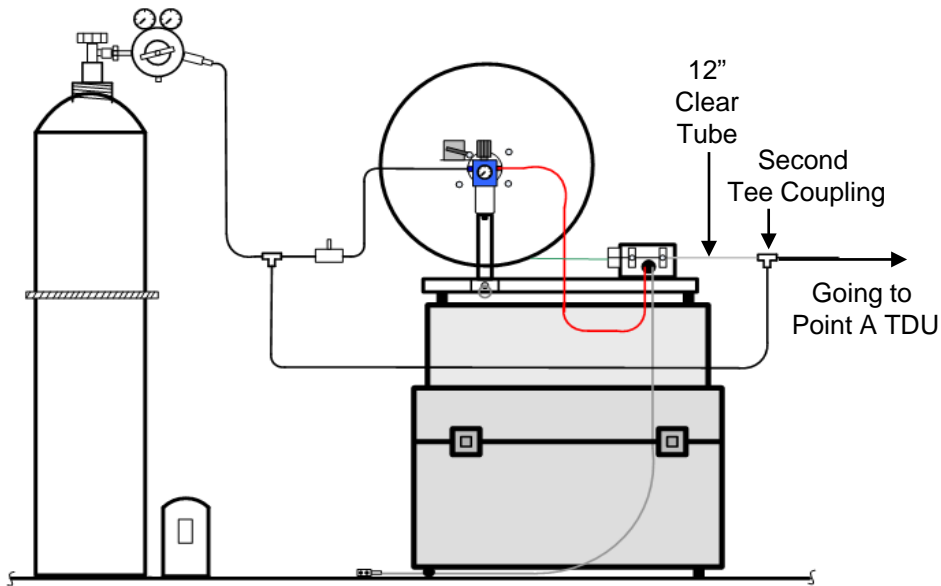
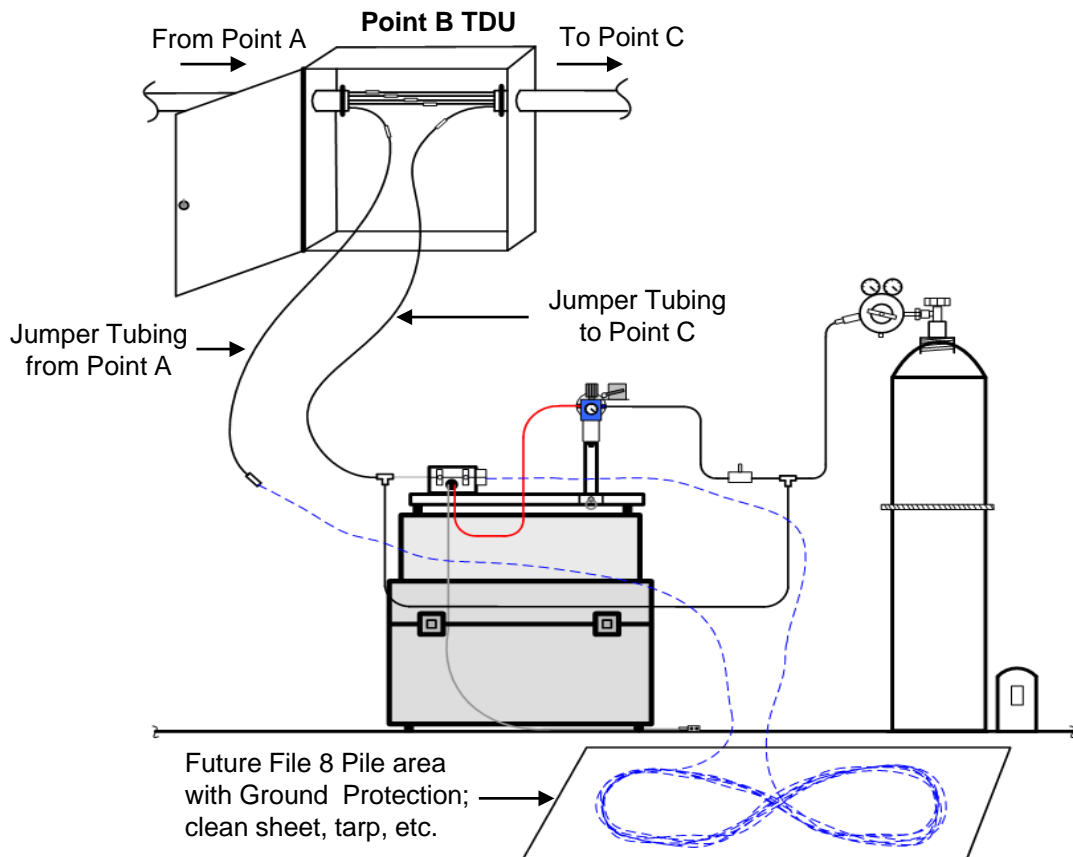
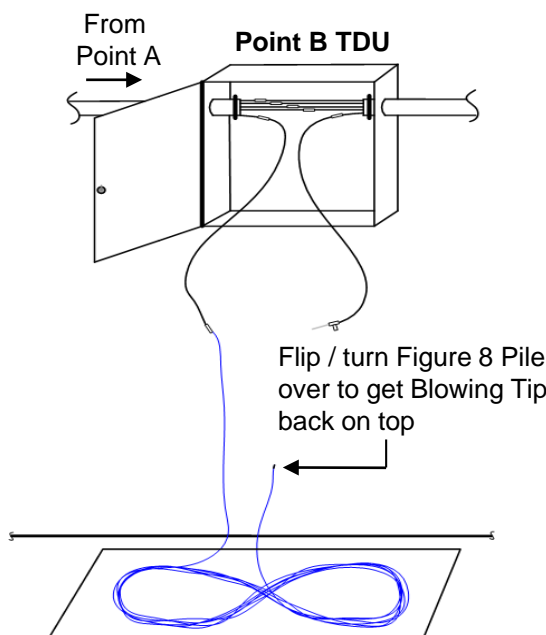

Figure 2
Figure 3
Figure 8
4.1.1 Special Note: The total number of Bottles required to accomplish Segment Blowing with a Figure 8 operation must be considered. Typically, two (2) bottles minimum (maybe more) will be needed at Point A and one (1) bottle (maybe two) at Point B location; total three (3) bottles minimum. Very long or tortuous tube span routes may require more.
4.10 Clean tarp, plastic sheet, or similar ground cover; to protect fiber bundle from contamination while in Figure 8 pile (Installer provided).
4.11 Traffic cones or similar; to organize fiber bundle in Figure 8 pile (Installer provided).
5.1 **See Fig. 2 and Fig. 3** for a typical Segment Blowing with a Figure 8 Blowing Equipment layout.
6.4 At Point A, set up Blowing Head and fiber reel in accordance with Sumitomo Recommended Procedure SRP SP-F04-001. **Refer to Fig. 2.**
for Second Segment Blow off Figure 8
Prepare Point B TDU and Adjacent Area to Receive Fiber Bundle in Figure 8 Pile
6.6 Prepare Point B work area to receive fiber bundle and make Figure 8 pile.
6.6.2 Set up traffic cones to keep fiber bundle organized in Figure 8 pile.
8.0 Making Figure 8 Pile
First Segment Blow from Point A TDU to Point B TDU and into a Figure 8
8.2 Installer and Assistant guide moving fiber bundle to protected area and begin making Figure 8 pile.
CAUTION: Blowing Head Operator must be prepared to adjust fiber bundle installation speed as directed by personnel making Figure 8 pile.
8.3 When sufficient fiber bundle length is available in Figure 8 pile to cover the remaining distance from Point B to Point C, Installer informs Blowing Head Operator.
Note: Do not cut fiber bundle from reel at this time. In the event the length of fiber bundle in the Figure 8 pile is "short," recovery is still possible.
9.1 At Point B, set up Blowing Head in accordance with Sumitomo Recommended Procedure SRP SP-F04-001 with the following exceptions. **See Fig. 8.**
Note: For this procedure, the Figure 8 pile must be turned over (flipped) to expose front end of fiber bundle and Fiber Bundle Blowing Tip.
CAUTION: Exercise extreme care when turning (flipping) Figure 8 pile to avoid damaging fiber bundle or getting loops tangled.
9.2 **Critical Step.** Carefully turn (flip) Figure 8 pile over to gain access to Fiber Bundle Blowing Tip. **See Fig. 8.**
Flip / turn Figure 8 Pile Carefully
10.7 Assistant guides exposed fiber bundle from Figure 8 pile into back of Blowing Head during blowing operations.
CAUTION: Be very careful when taking fiber bundle off Figure 8 pile. The thin bundles can tangle very quickly. Be alert and prepared to stop blowing operations if problems occur.
Second Blowing Operation From Point B Figure 8 to Point C
11.2 Blowing Head Operator must continue to install fiber bundle until Figure 8 pile is depleted. Installer at Point C FTU must coil, organize, and protect fiber bundle from damage until the Figure 8 pile is depleted.
11.4 When Figure 8 pile is depleted, Blowing Head Operator adjusts Motor Rate Control Valve to slow fiber bundle movement while decreasing exposed length. Assistant continues to help guide fiber bundle and jumper tubing toward back of Blowing Head.
14.8 This completes the Segment Blowing with a Figure 8 Blowing Procedure.